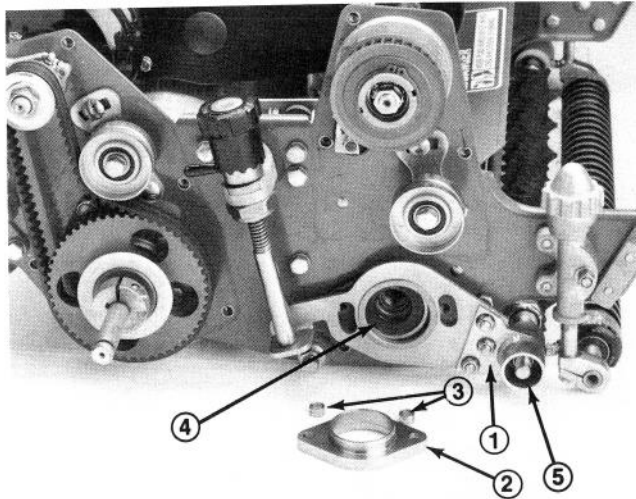

Figure 7
A. Slide the groomer plate assembly over the end of the groomer shaft (Fig. 7).
B. Insert an adapter ring into reel bearing housing. Insert the two 3/8-16 x 2" lg. flat head screws through the groomer arm cover and bearing adapter. Put a spacer over each screw before positioning the adapter into the reel bearing housing. Slide the adapter through the bronze bearing in the groomer plate assembly and into the reel bearing housing. Install locknuts on flat head screws and torque to 23 to 27 ft-lb (Fig. 7).
C. Secure right end of groomer shaft to groomer plate assembly with a 1/2-20 locknut (Left hand thread) Torque to 29 to 35 ft-lb (Fig. 7)
16. Mount groomer adjustment knob assembly to right side plate with a 3/8-16 x 5/8" lg. capscrew and belleville washer. Reinstall left bedbar adjuster frame to side plate with capscrews and washers previously removed (Fig. 7).